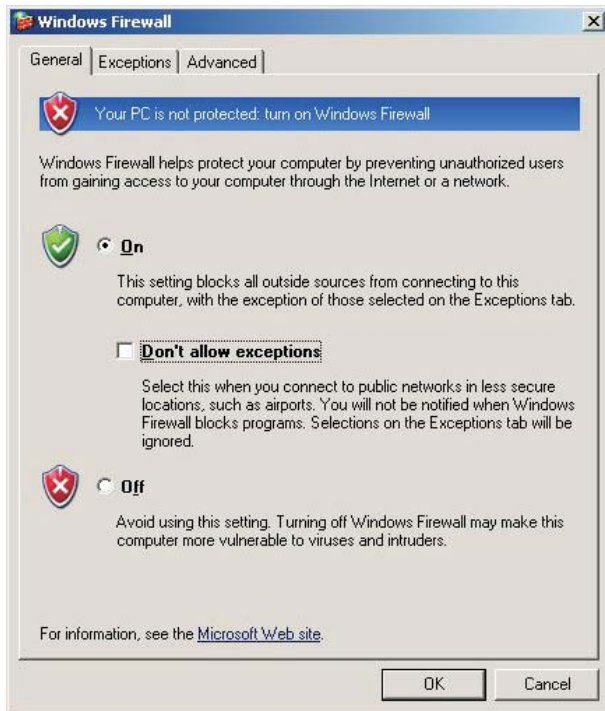

Figure 1. Windows Firewall dialog box
3. Click on the **Exceptions** tab to add or remove the programs and services for which you want to change the access to your computer through the Internet or a network. Make sure that you deselect **Don't allow exceptions** as shown in Figure 1.